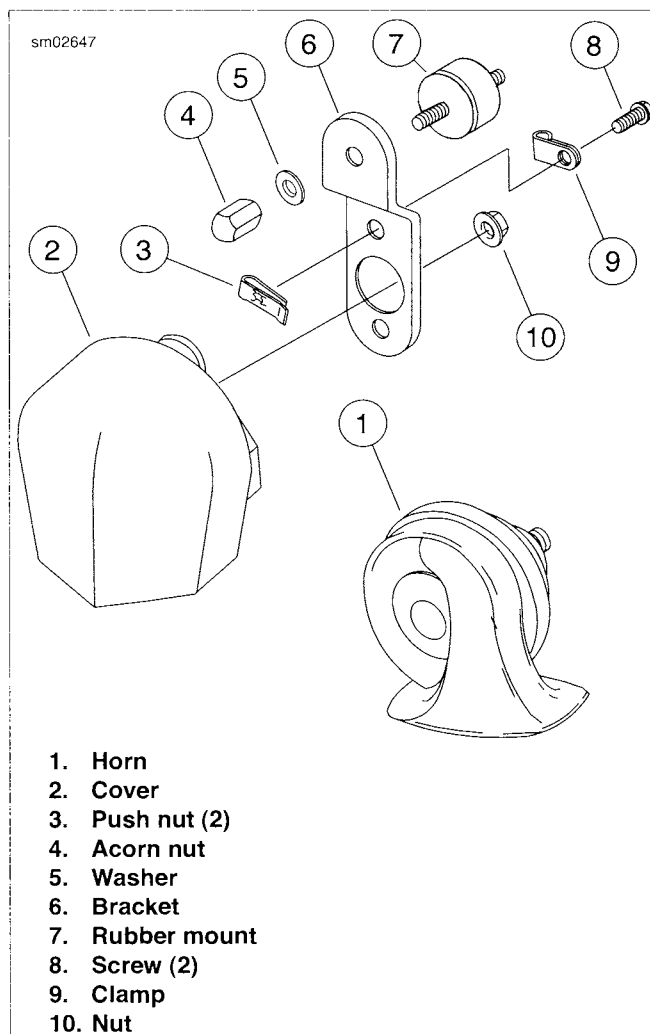

Figure 7-82. Horn
1. See Figure 7-82. Remove acorn nut (4) and washer (5) to detach horn bracket (6) from vehicle.
3. Remove screws (8) and nut (10) to detach horn from bracket. Free wires from clamp (9).
- a. Secure with screws (8), and push nuts (3). Tighten screws to 35-55 **in-lbs** (4.0-6.2 Nm).
- b. Install nut (10) and tighten to 80-100 **in-lbs** (9.0-11.3 Nm). Fold wires under clamp (9).
6. Attach horn bracket to vehicle using washer (5) and acorn nut (4). Tighten nut to 80-100 **in-lbs** (9.0-11.3 Nm). When tightening fasteners, be sure the horn does not contact the horn cover or other parts.